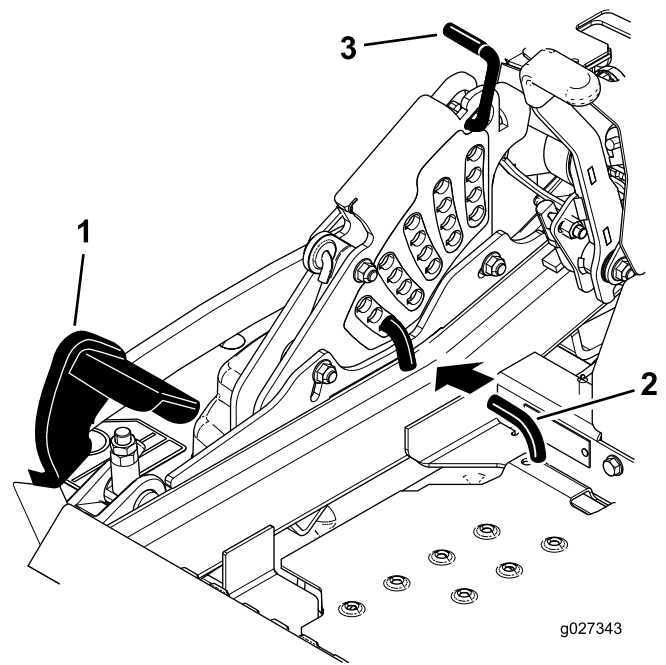

Figure 94
4. Push the deck-lift pedal all the way forward and the deck latches at the 140 mm (5-1/2 inches) transport position (Figure 94).